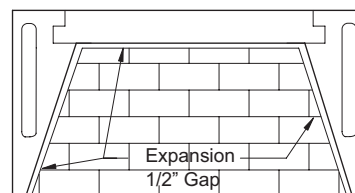

FIGURE 64
3. Start the firebrick at the front edge of the floor of the Isokern firebox, proceeding inward toward the back. Let the floor brick gap approximately 1/2" off the back wall and side walls. This air space allows heat expansion of the firebrick and is to be left empty of mortar. (Figure 64)